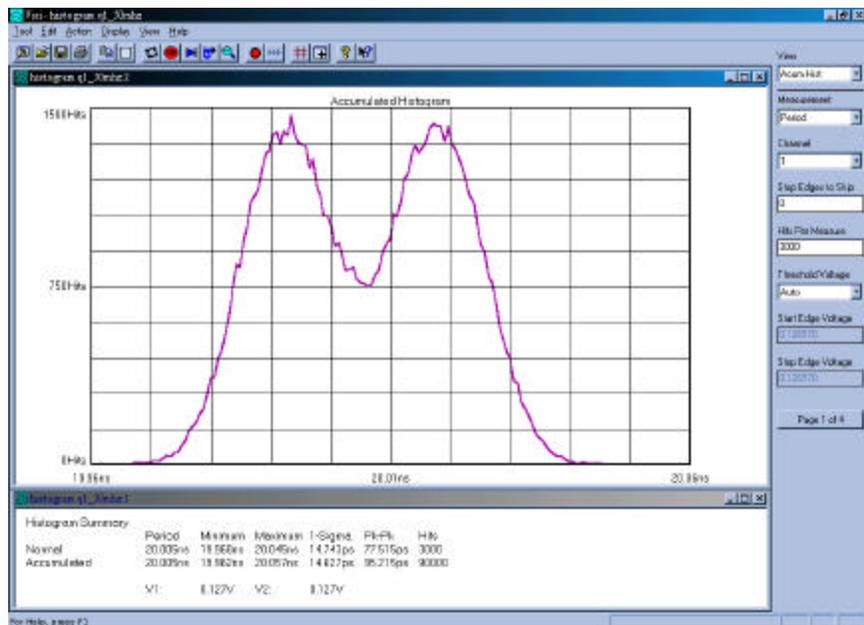
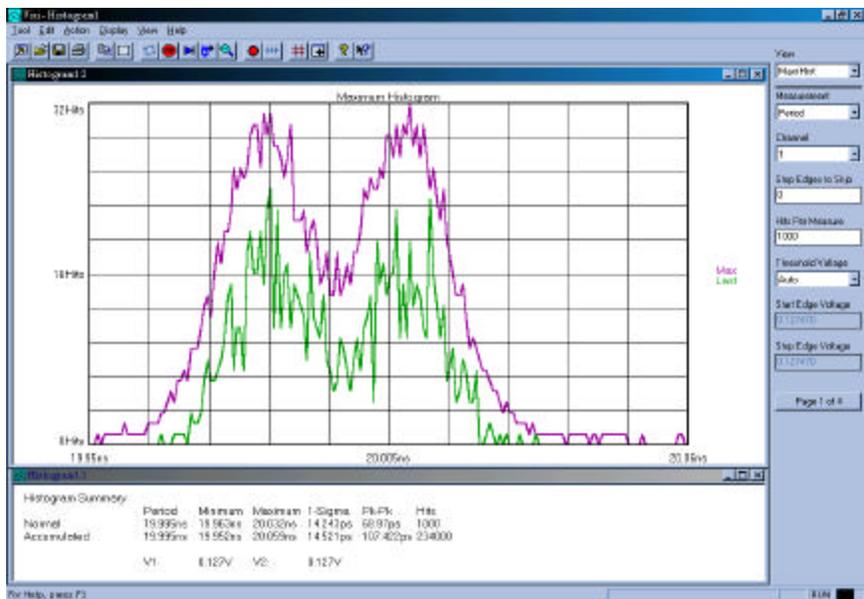
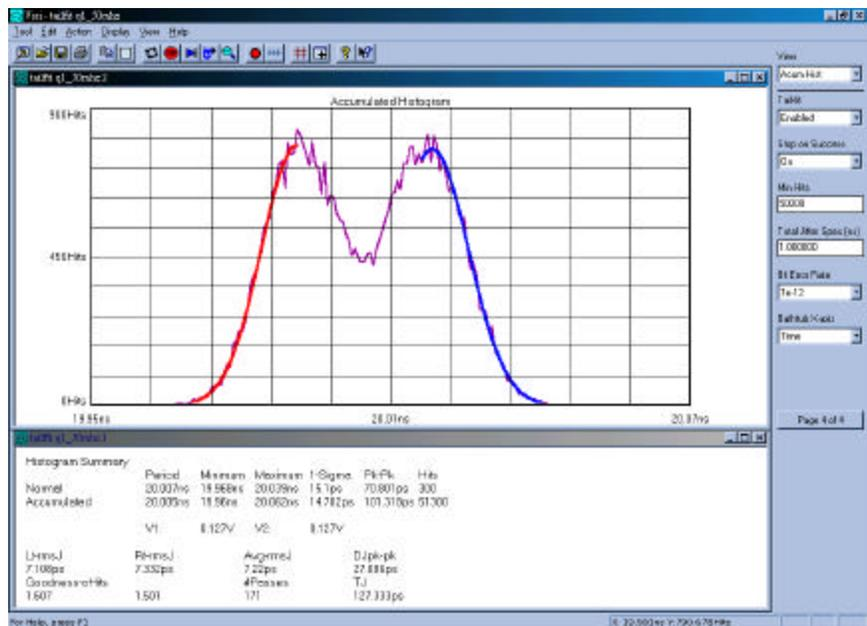

Figure 5. Histogram without TailFit™
Figure 6. Histogram using Maxi View
Figure 8. Histogram with TailFit™ enabled
If the histogram distribution is Multimodal as in Figure 5, the 1-sigma and Pk-Pk values don't accurately reflect the random component of jitter. This is because the cause of a non-gaussian distribution is deterministic. Therefore, in the presence of DJ the 1 $\sigma$  value incorrectly states the true RJ.
The Histogram tool produces three different views: Norm, Acum, and Maxi Histogram (Refer to Figure 2, Dialog Bar Pg1of 4). The “Acum” view (see figure 5) puts all measurements from multiple acquisitions into one histogram. The “Maxi” view (see figure 6.) is useful to see low frequency or probability events as outliers. Rather than auto-scaling all measurements into one histogram the most recent histogram is shown in addition to the maximum extents of all previous histograms. Period drift can be seen in this view.
Both Figures 5 and 8 have about the same 1-sigma and Pk-Pk values, but Figure 8 separates the jitter into its individual components. A DJ value is now displayed in the statistics window. RJ is displayed as Left-side (Lt-rmsJ), Right-side (Rt-rmsJ), and Average (Avg-rmsJ) which can be used if the left and right RJ's are different. Note that the 1-sigma value is larger than the Avg-rmsJ which represents the true random component. A Total Jitter (TJ) value is now present in the statistics window; it is derived from the bathtub curve below.
1) The lines on this plot are inversely proportional to the TailFit™ curves in Figure 8. Here, the left line corresponds to the right tail-fit, and the right line corresponds to the left tail-fit.